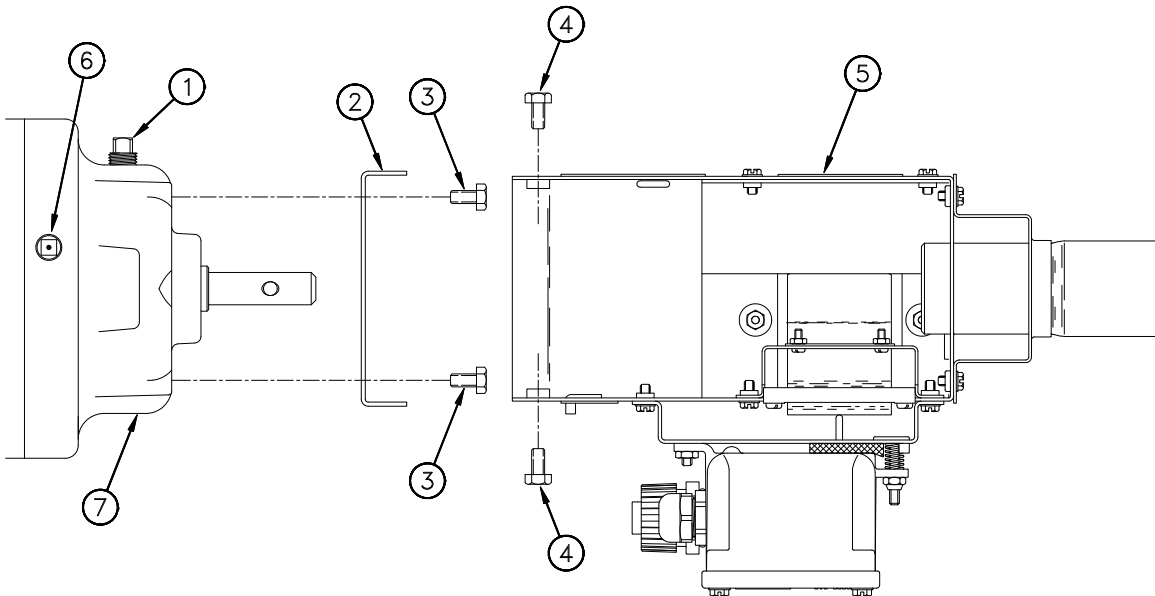

Figure 38. Attaching the Anchor Plate and Gearhead Assembly to the Control Unit Body
10. Attach the Anchor Plate and Gearhead Assembly to the Control Unit Body using the included 1/4" lock washers and 1/4-20 x 1/2" Bolts. See **Figure 38.**